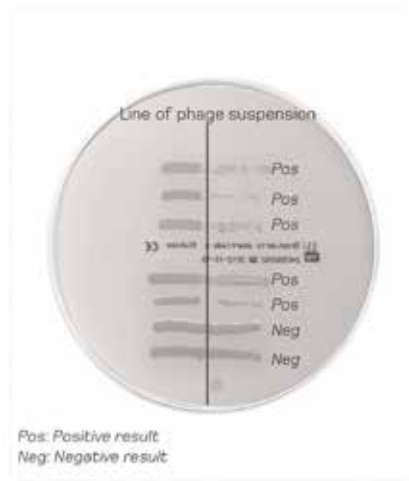

Figure 4. Result from phage typing.
The maximum number of tests per agar plate is limited to six bacterial cultures and one positive control (See figure 4).
Bacteria not expressing a phage receptor will not be infected and growth will be observed in the full length of the bacterial streak across the phage line (see figure 4).
4. Streak a horizontal line of live broth culture from left to right, crossing the phage suspension, using a 1 μ L inoculation needle (see figure 4).